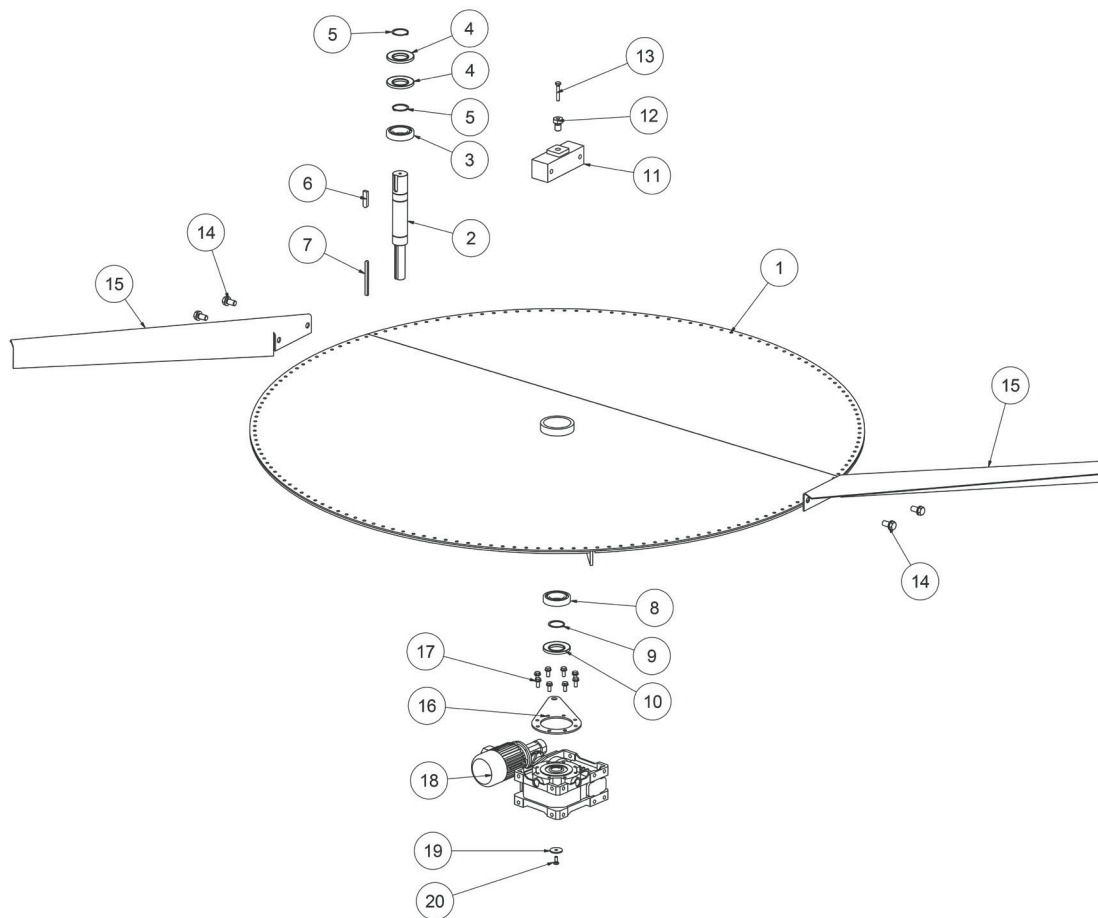

Fig. 06
See Fig. 06. Assemble the axle (2) with the bearing (3). Secure with the C-ring (5). Fit the complete axle in the hub on the base plate (1). Then slot the scraper rings (4) over the axle, ending with a Seeger ring (5). To secure the axle, fit the lower ball bearing (8) with its Seeger ring (9) and scraper ring (10). Fit the hub part (11) to the axle with the bolt connection (12). Roughly adjust the height before fitting the scrapers (15). Secure the scrapers with bolts (14).